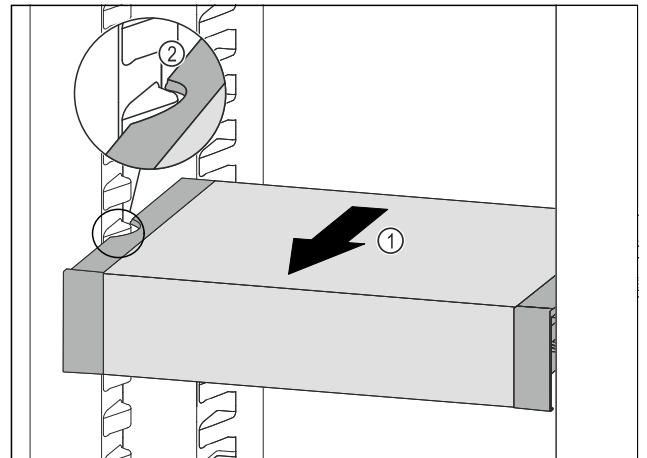

Fig. 144
- ▶ Pull VarioSafe forward Fig. 144 (1) until the recesses in the side of the VarioSafe are at the level of the support rib in the refrigerator compartment. Fig. 144 (2)